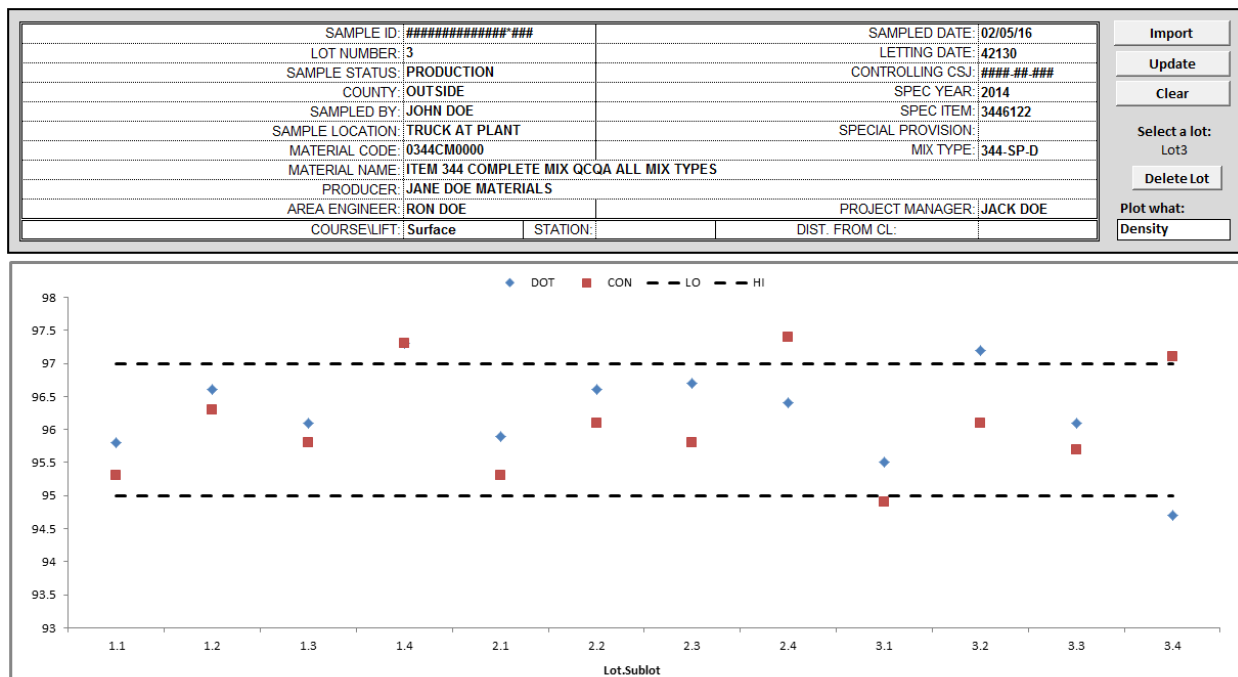

Figure 1—Bituminous Mixture Control Chart Example
- 3.1.1 Figure 1 shows an example of a control chart worksheet.